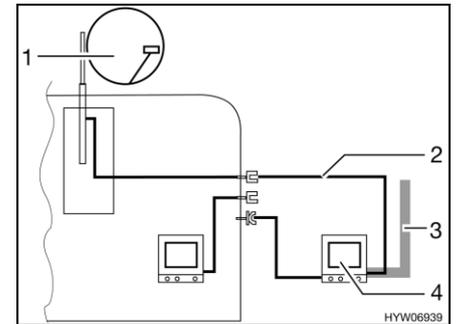

Fig. 197 TV in the awning
- TV inside the awning (Fig. 197,4): Connection to roof antenna (Fig. 197,1) with connection cable (Fig. 197,2)
- TV inside the awning (Fig. 197,4): Connection to external antenna (Fig. 197,3)